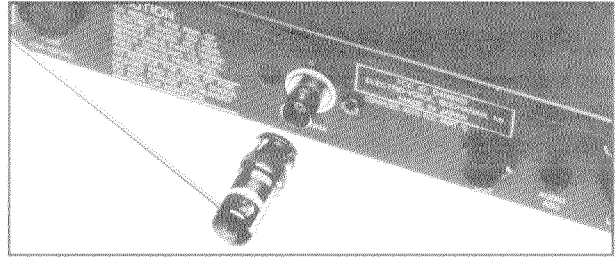

Figure 1 - Connect Antennas on Rear Panel
- 1) **Attach the whip antennas to the rear-panel antenna connectors, twisting clockwise one-quarter turn to lock (disconnect by lightly pushing in and twisting counterclockwise one-quarter turn) (see Figure 1). Position the antennas in an upright "V" configuration (like TV rabbit ears). If the receiver is mounted in a rack, the whip antennas can be made to go straight back by loosening the Allen screw in the barrel of the BNC connector, pulling the antenna out, replacing it in the top of the BNC connector, and retightening the Allen screw.** **Note:** dipole antennas provide better range and reliability in difficult installations. See section on antennas later in this manual.